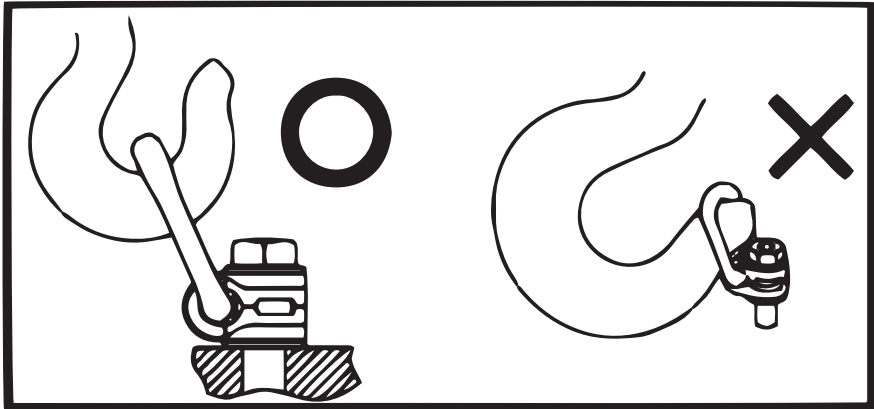

Figure 1
- Attach lifting device ensuring free fit to Lifting Point Ring (Figure 1).